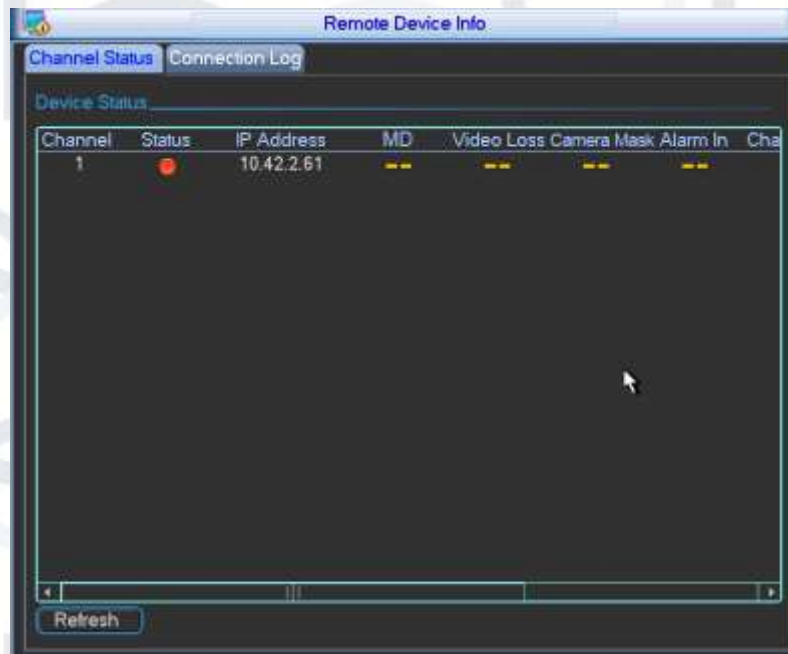

Figure 4-14
- **Channel status:** Here you can view the IPC status of the corresponding channel such as motion detect, video loss, camera masking, alarm, etc. (See Figure 4-14).